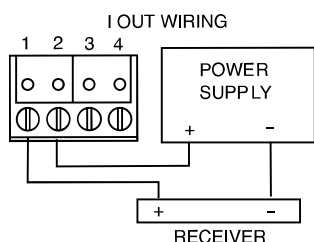
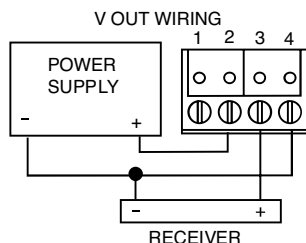

Figure 1
Figure 2
- Proceed with wiring according to Figures 1 and 2.
Use maximum 18 AWG wire for wiring terminals. Refer to Figure 1 or Figure 2 for wiring information. The terminal block is removable for ease of installation.